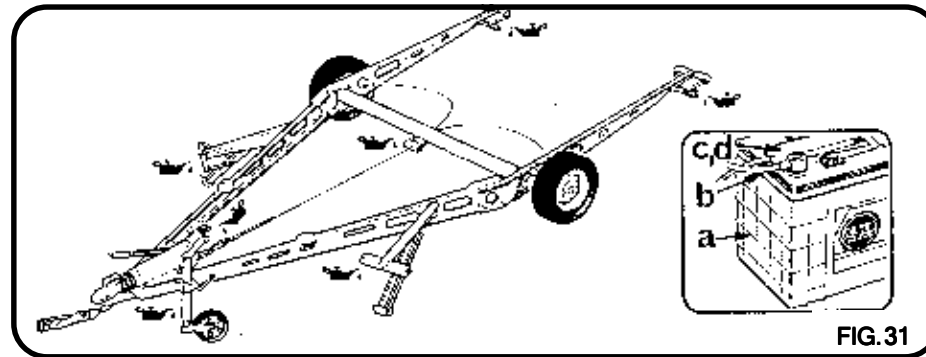

FIG.31
**Lubrication (Fig. 31)**
**2.11 Service the Battery (Fig. 31)**